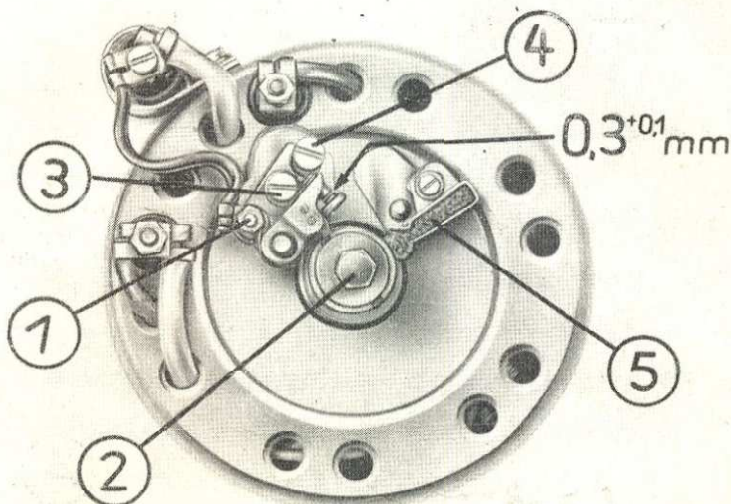

Fig. 7 Adjusting of contact breaker gap
For timing adjustment it is necessary to loose feed wire (1 – fig. 7) from ignition switch (connection 15) at upper contact point. This is absolutely necessary in order to avoid demagnetization of rotary magnet by battery current (from adjusting tool). Do not loose feed wire at condenser as casting alloy could slacken in the end.
After this a timing tool (if possible equipped with a dial indicator) is placed in spark plug hole and screwed tight. Crankshaft is rotated by rotary magnet fastening screw (2 – fig. 7) until piston ist at t. d. c. Now an adjustment tool (equipped with a weak current battery and provided with a warning lamp or with a buzzer) is connected between minus (crankcase) and connecting screw (1) – feed wire always is loosened while doing so. After this **crankshaft is turned back (anti-clockwise) till piston is 3.00 mm b. t. d. c. (this is equivalent to 22° 15' crankshaft degrees)**. When timing tool (or dial indicator) shows 2.9 mm, the warning lamp should be on or a buzzing can be heard.